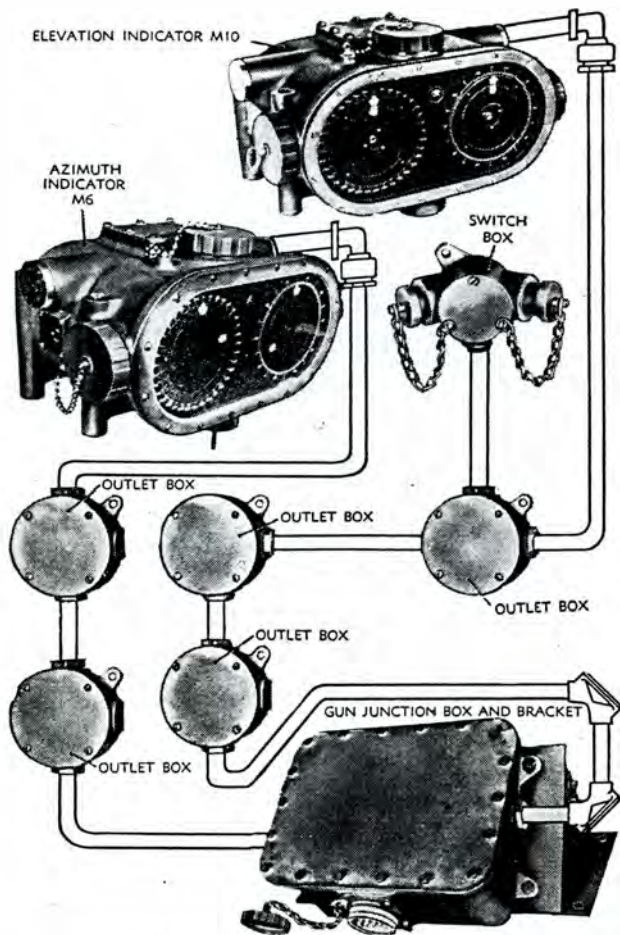

Figure 20. Data transmission system, on-carriage parts.
a. **General.** The azimuth data indicator is used to indicate the azimuth at which the gun is set and also the azimuth at which to set the piece as directed by the off-carriage fire control instruments. The elevation data indicator is used to indicate the elevation at which the gun is set and also the elevation at which to set the gun as directed from the off-carriage fire control system. For a detailed account of the data transmission system (fig. 20) see FM 4-32.
b. **Orientation.** (1) To orient the azimuth and elevation data indicators, first set the gun at a known azimuth and elevation. This can be done, in azimuth,